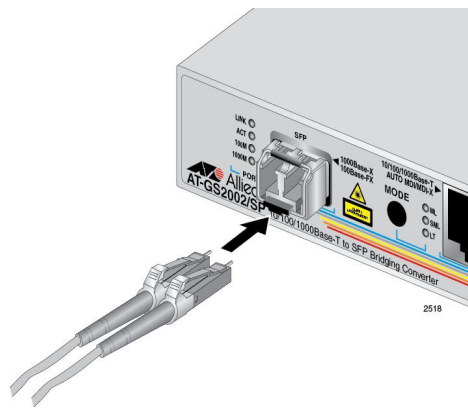

Figure 10. Connecting to the SFP Transceiver
2. Connect the appropriate optical cable to the transceiver, as shown in Figure 10.
- The SFP transceiver consists of two connectors in one slot, as shown in Figure 10. Each connector connects to a separate fiber strand. One is for receiving data and the other is for transmitting data. When connecting a fiber optic cable to a SFP module, be sure that the receive fiber connector is connected to the transmitter connector on the remote end-node device, and the transmit fiber connector is connected to the receiver connector on the remote node.